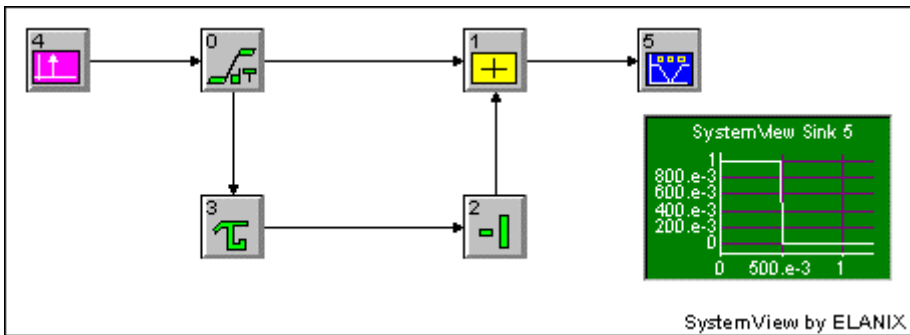

Figure 7.2 Example of a Finite Time Integrator System
The output signal y at any time t , is the result of integrating the input function $x(t)$ over a T second interval beginning at time t . The token arrangement is shown in Figure 7.2, with a delay of one-half second.
The system in Figure 7.2 is equivalent to writing the above equation in the form:
1. Create the system shown in Figure 7.2 using: